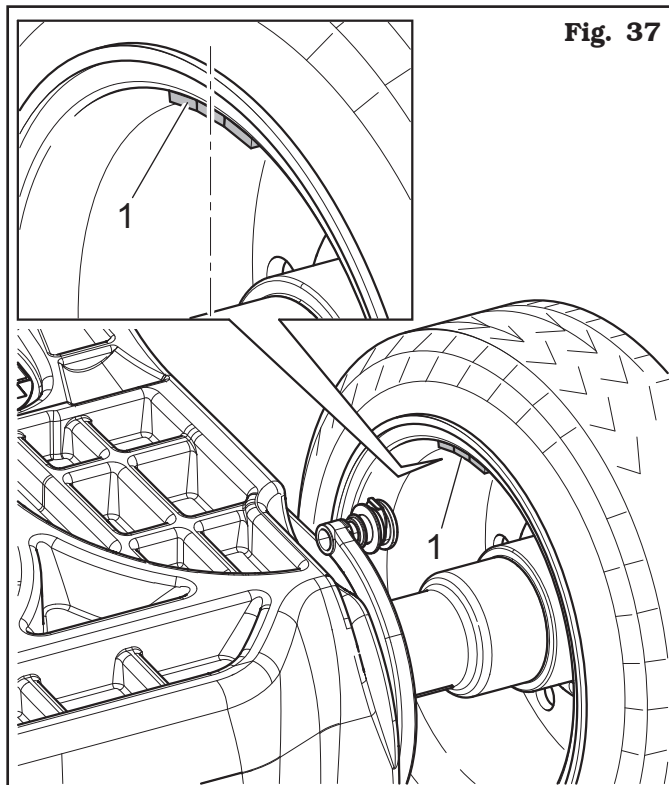

Fig. 37
The adhesive weight on the inner side of the wheel. The inner side weight must be positioned **by hand on the vertical** – at “12 o'clock” (see Fig. 37 ref. 1).